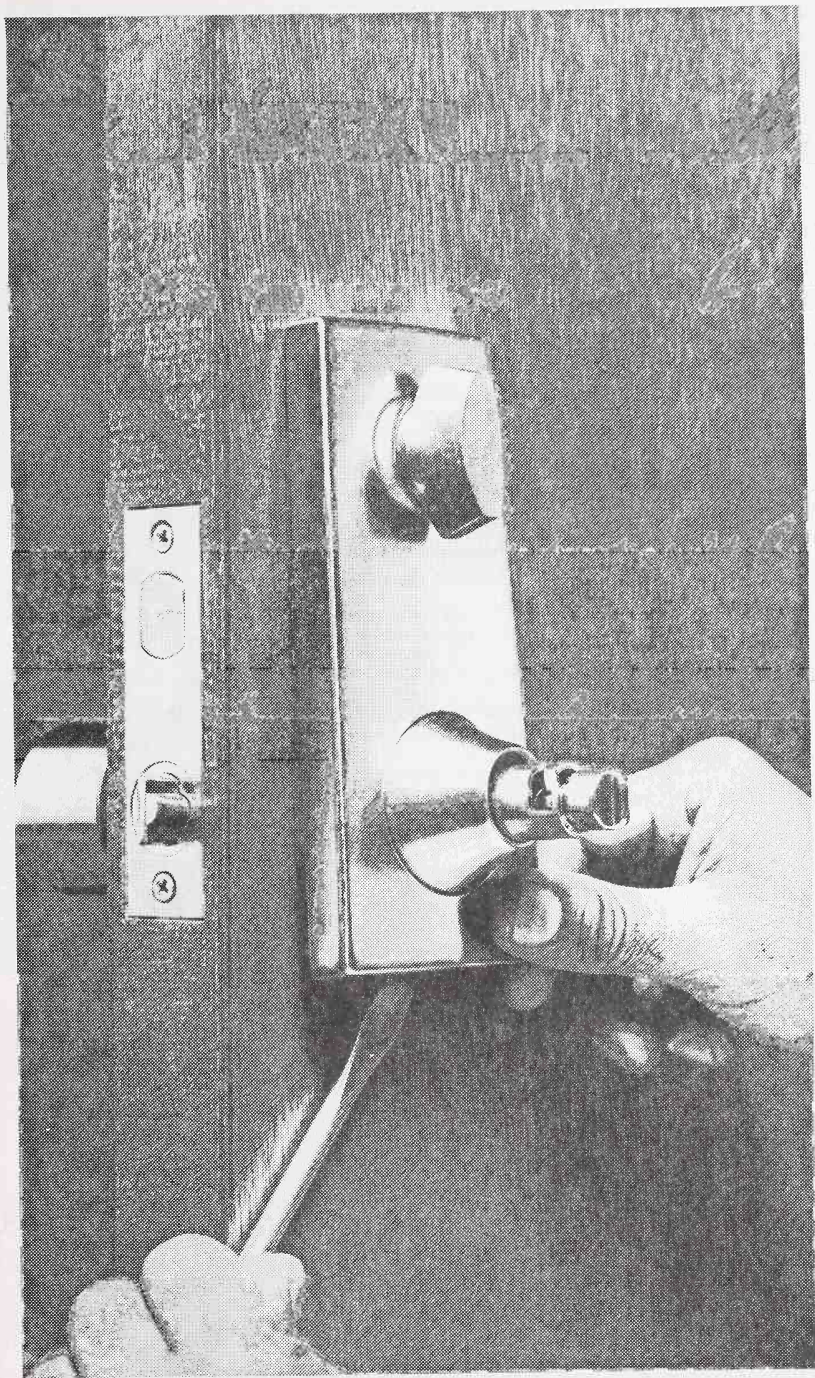
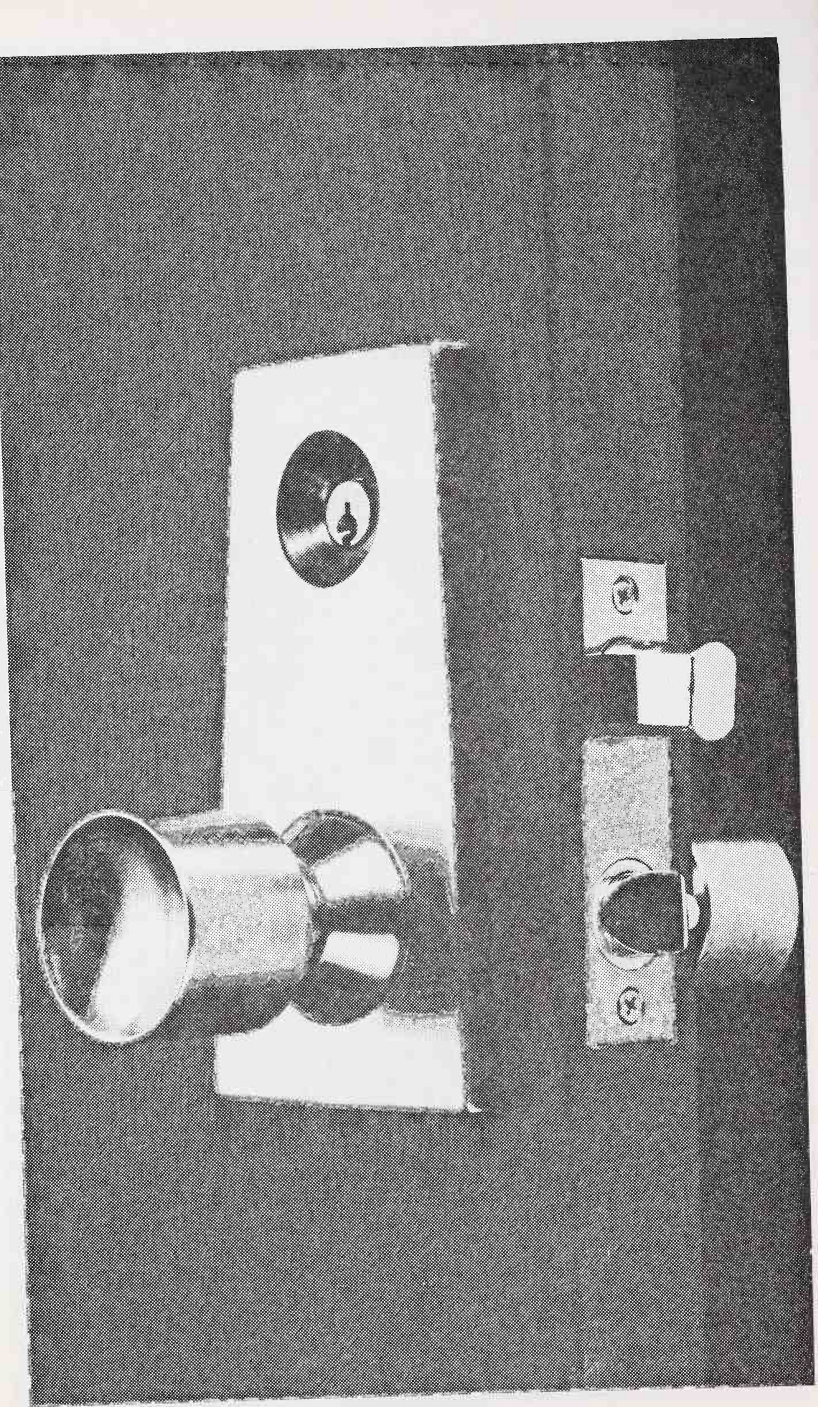

Fig. 18-105.
Fig. 18-106.
10. Snap the inside cover into place (Fig. 18-105). The lockset is now installed (Fig. 18-106).